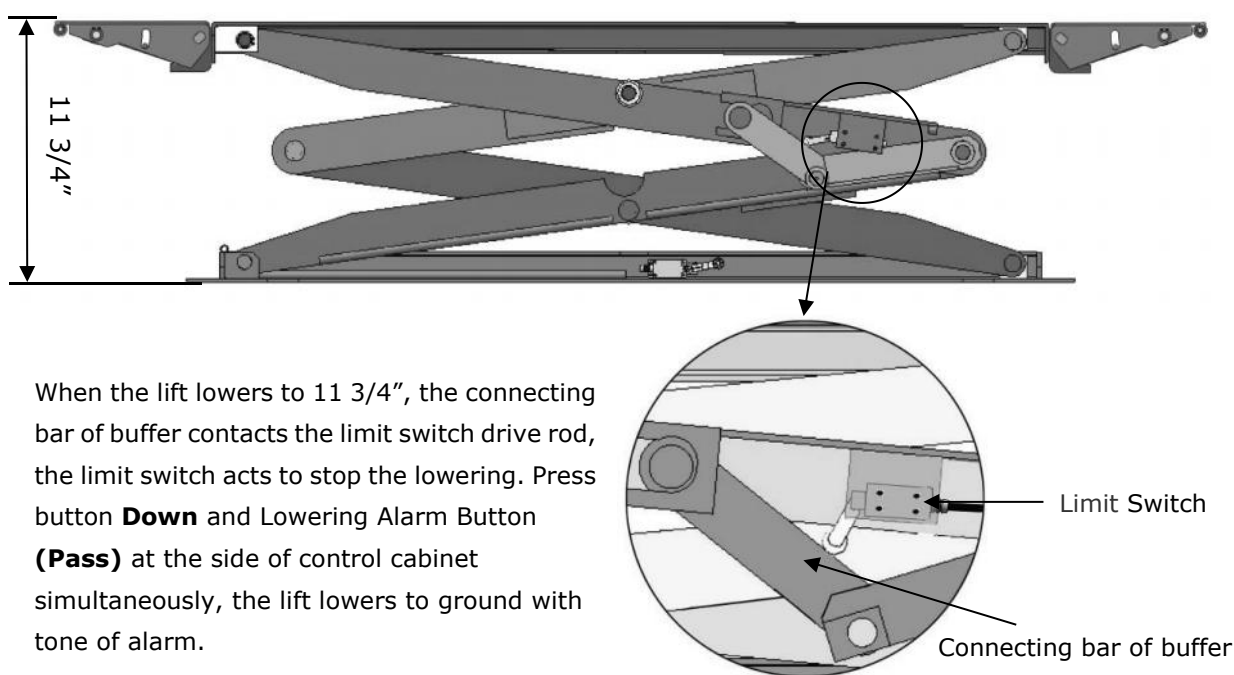

Fig. 18
3.2 Lower alarm device instruction (See Fig.18)